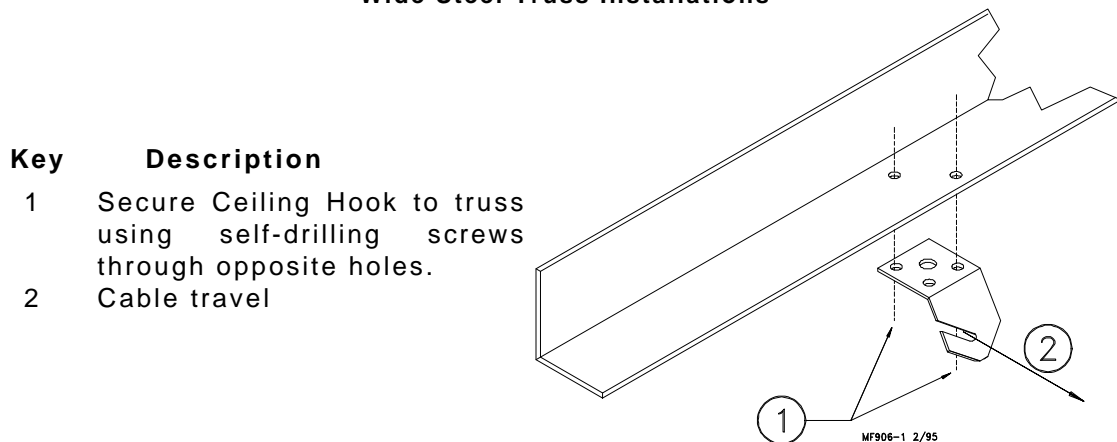

Figure 33. Ceiling Bracket Installation
1. The ceiling hook may be used in a variety of installations. Depending on your ceiling or rafter type, install the Ceiling Hooks as shown in **Figures 33 - 37**.